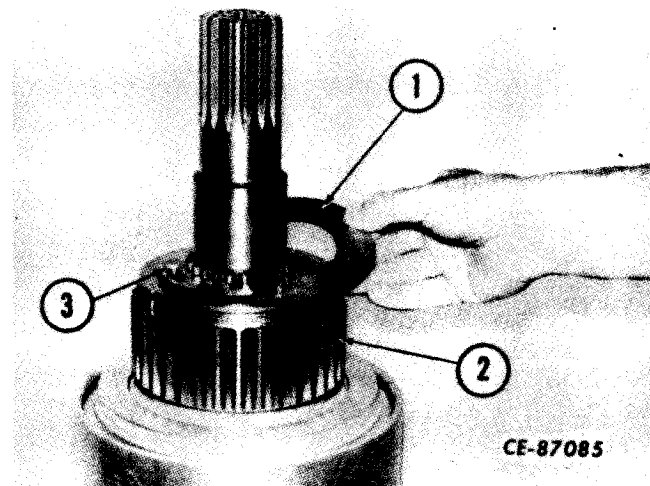

Figure 4-117
Install the hub assembly (2, Fig. 4-117) and hub retainers (1). Install and tighten the retaining cap screws (3) to the recommended torque (refer to "SPECIAL TORQUES").